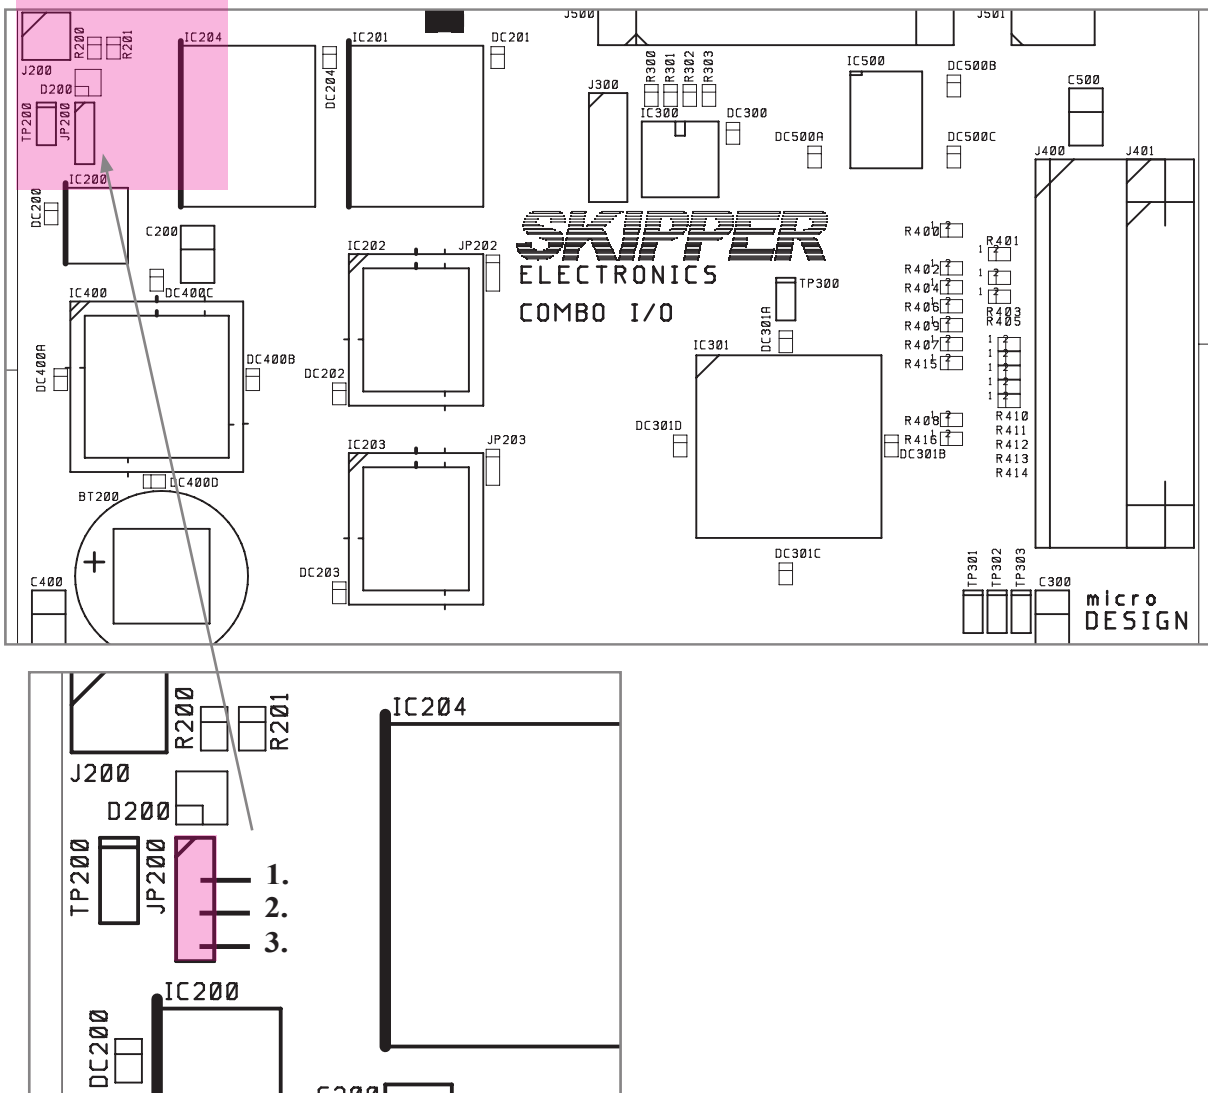

Fig. 3.7. Back-up battery jumper JP200, on I/O board.
**Important:** After the installation is complete and the system power is applied, it is necessary to connect the back-up battery to provide power to the user parameters during system power failure. Refer to fig. 3.7 for the correct setting of the battery jumper “ON” position 2 to 3. This jumper should be set to the “OFF” position 1 to 2 only during extended unit storage periods. The battery is in use only when no power is applied to the power terminals.